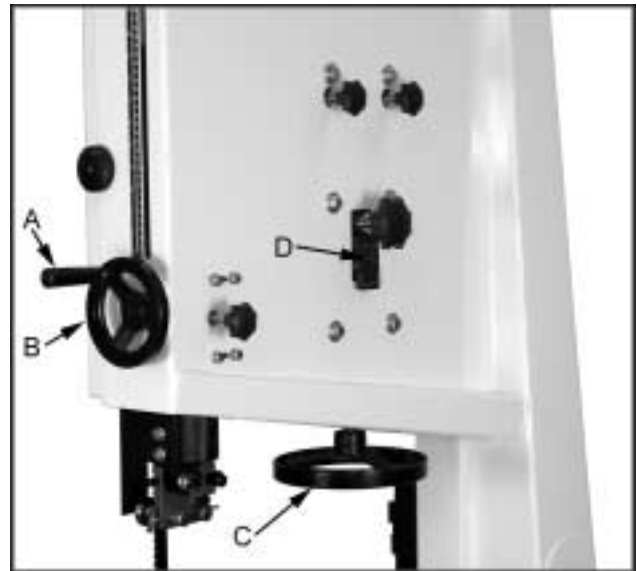

Fig. 1
1. Attach the handle (A, Fig. 1) to the handwheel (B, Fig. 1).
2. Turn blade tension hand wheel (C, Fig. 1) counter-clockwise to tension blade and clockwise to loosen the tension. A gauge on the upper wheel slide bracket (D, Fig. 1) indicates the approximate tension according to the width of the blade. The JWBS-20 comes with a 1" blade so the tension should be set at 1".